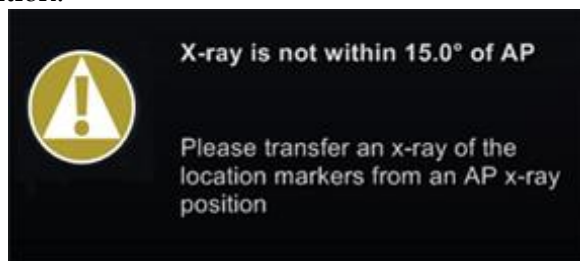

Figure 135. Message – “X-ray is not within 15.0° of AP”
The X-ray C-Arm may not be positioned correctly. It should be within 15 degrees of the anterior-posterior (AP) position. If it is not, a gold caution symbol displays with the message, “X-ray is not within 15.0° of AP” (**Figure 135**). Adjust the C-Arm so it is within 15° of the AP position.